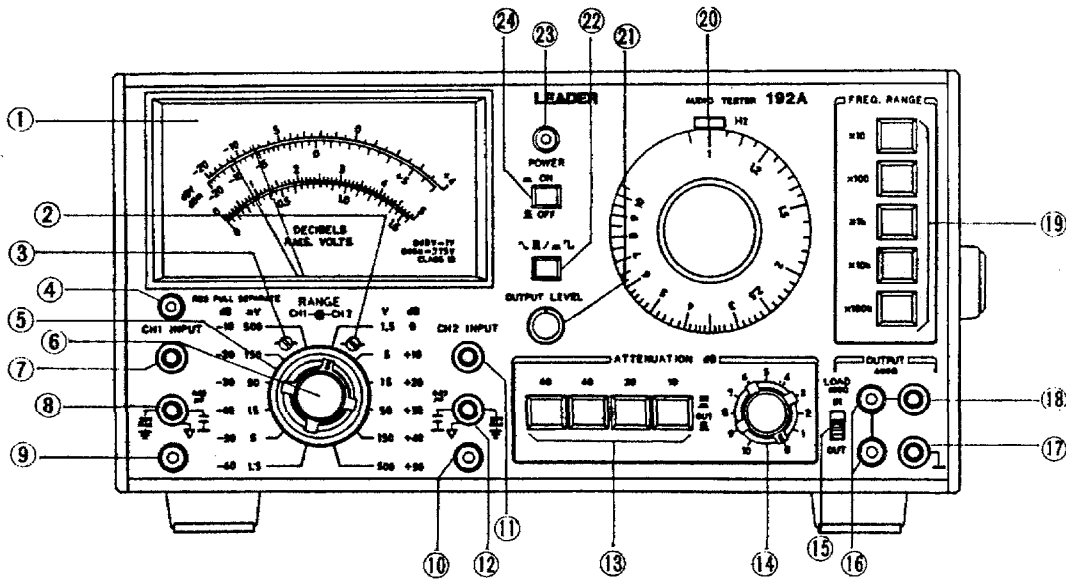
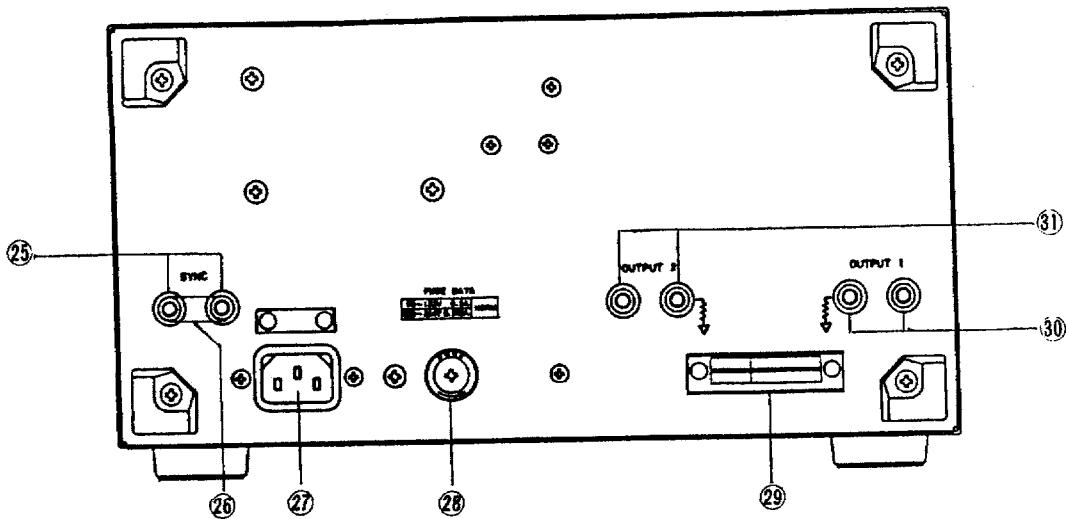

Fig. 3-1 Front panel controls and connectors.
Fig. 3-2 Rear panel controls.
3.1 AC Millivoltmeter Section, see Fig.3-1.
- ① Meter: With scales calibrated for Volts (rms) and decibels. There are three scales: volts, dBV and dBm. The black pointer indicates CH 1 readings and the red pointer indicates CH 2 readings.
- ②③ Mechanical zero adjuster for the meter.
- ④ Independent/interlock indicator
- ⑦⑪ INPUT terminal (red): For the high potential side. ⑦ CH 1, ⑪ CH 2.
- ⑧⑫ INPUT terminal (black): For the low potential side; this is "floated" from the chassis with a 0.22 μ F capacitor, ⑧ CH 1, ⑫ CH 2.
- ⑨ Input jack for CH 1 signal of stereo input. This jack is connected to the input terminals internally.
- ⑩ Input jack for CH 2 signal of stereo input. This jack is connected to the input terminals internally.
3.2 AF Signal Generator Section, see Fig.3-1.
- ⑬ ATTENUATION dB switches: For attenuating the AF output signal; range is 0 to 110dB.
- ⑭ Attenuator switch: Adjusts the AF output signal in 1dB steps.
- ⑮ OUTPUT IMPEDANCE switch: Selects the output load impedance; 600 Ω .
- ⑯ OUTPUT jacks: For use with the pin plug lead.
- ⑰ Ground terminal (chassis connection).
- ⑱ OUTPUT terminal: For the AF output signal (connected in parallel with pin jack ⑰).
- ⑲ FREQ. RANGE switches: Five pushbuttons for selecting the range of the output frequency.
- ⑳ Frequency dial, Hz: Calibrated from 1 to 10Hz; actual output frequency depends on the range setting.
- ⑳ OUTPUT LEVEL control: For continuous adjustment of output.
3.3 Rear Connections, see Fig.3-2.
Check the 0 pointer setting on the meter. If not zeroed at the left end of the scale, adjust the zero-set screws on the panel below the meter. (See Fig.3-1)